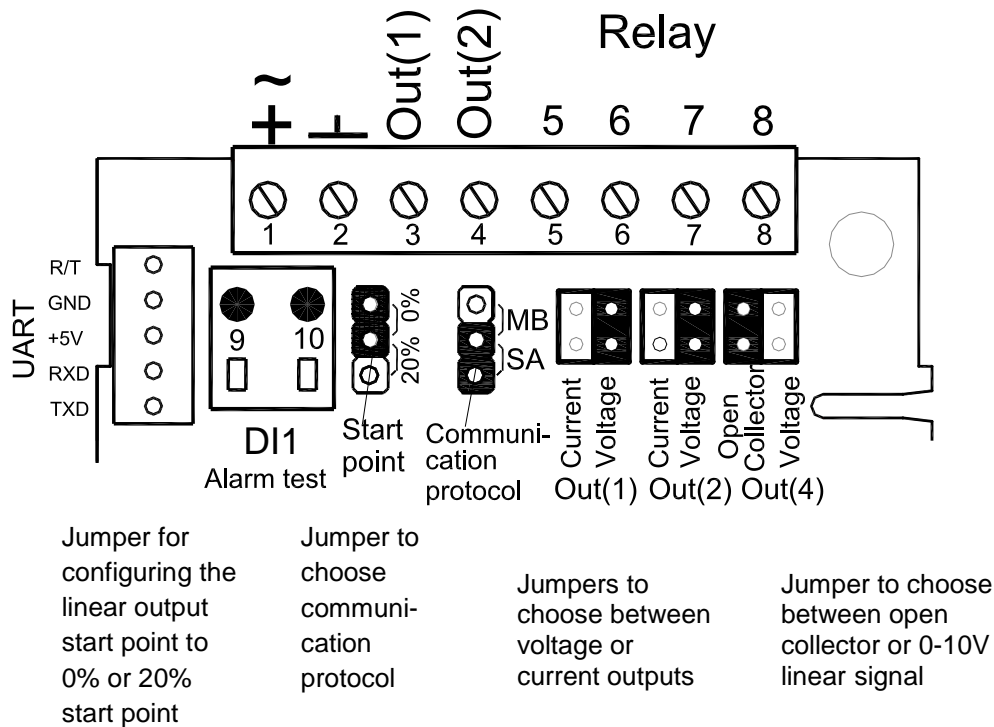

Fig. 3. Terminals and jumpers on CF8-W-Disp-CO. The darker positions are default settings.
1. **Dismount the wall plate.** The sensor is delivered with the wall plate mounted. The wall plate has to be removed before the sensor is mounted onto the wall. Unscrew the screw on the side of the box. See figure 3.